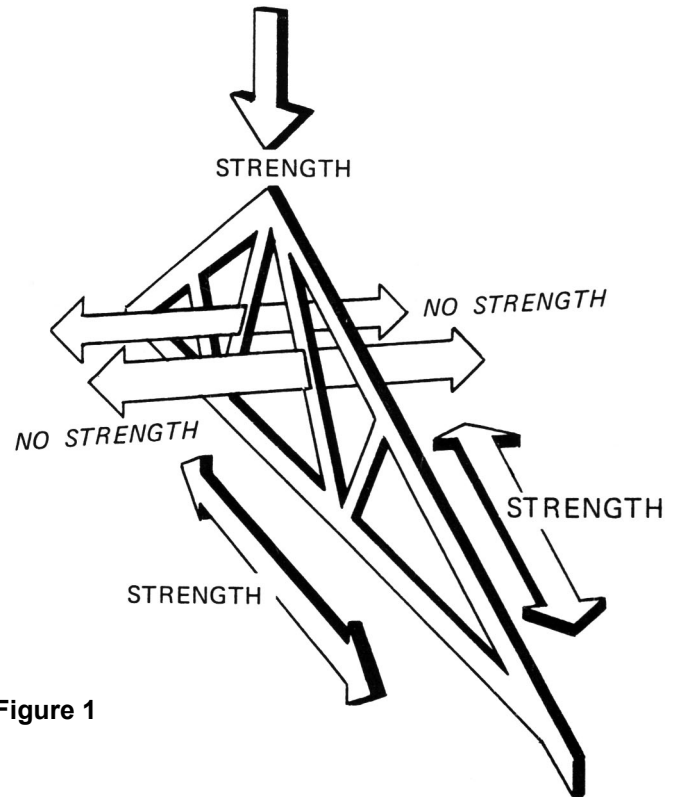

Figure 1
- Trusses have very little strength in the lateral direction; when hoisting and handling, take extreme care to avoid damaging trusses or overstressing the wooden members and the connections (Figure 1). Do not allow the trucker to drive out from under the load of stacked trusses.